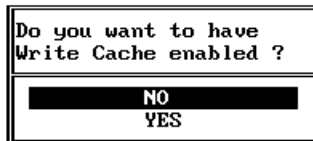

Figure 2-14. Selecting the Write Policy
- Next, select the write policy for the system drive that is to be automatically created (Figure 2-14).